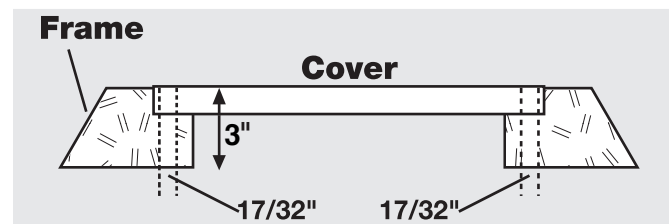

Figure 2
**STEP 2:** Drill 17/32" (for 5/8"-11 thread) or 7/16" (for 1/2"-13 thread) hole through COVER AND FRAME. (Approximately 3" minimum drill depth required to create hole through cover and frame. See Figure 2)